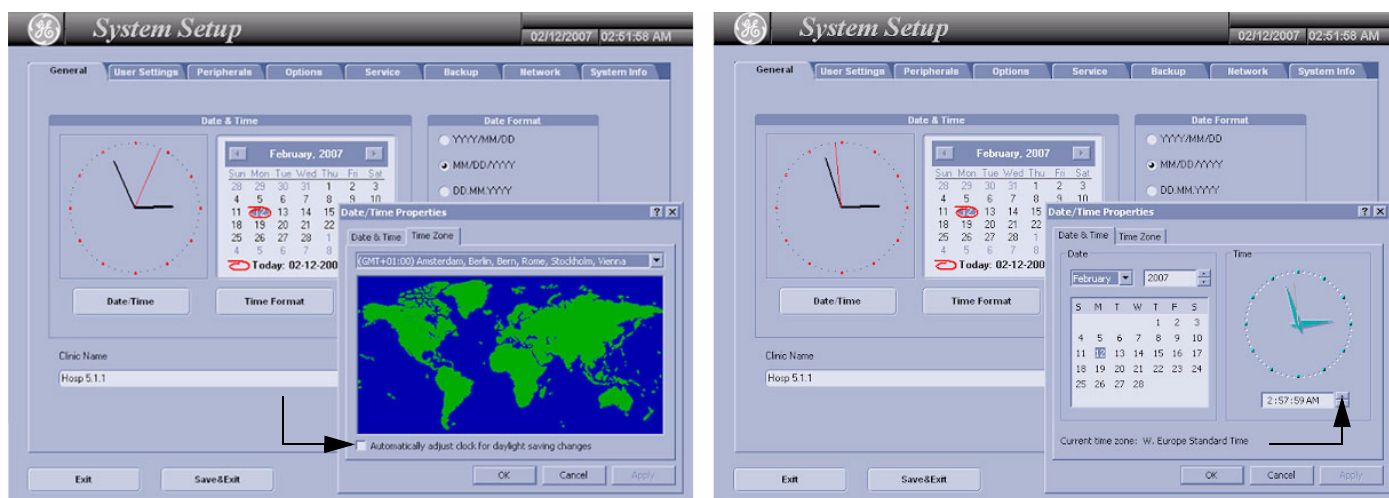

Figure 6-15 Uncheck check box / adjust time
- 6.) Uncheck "Automatically adjust clock for daylight saving changes" check box and then click **APPLY** (see: left image of Figure 6-15 below).
- 8.) Set the proper time for the system's location and then click **OK** (right image of Figure 6-15, above).